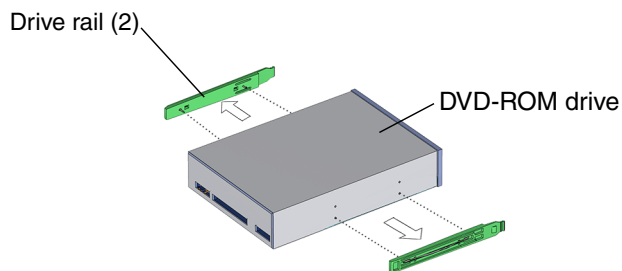

FIGURE 12-10 Removing the DVD-ROM Drive Rails
6. Detach the drive rails (FIGURE 12-10).